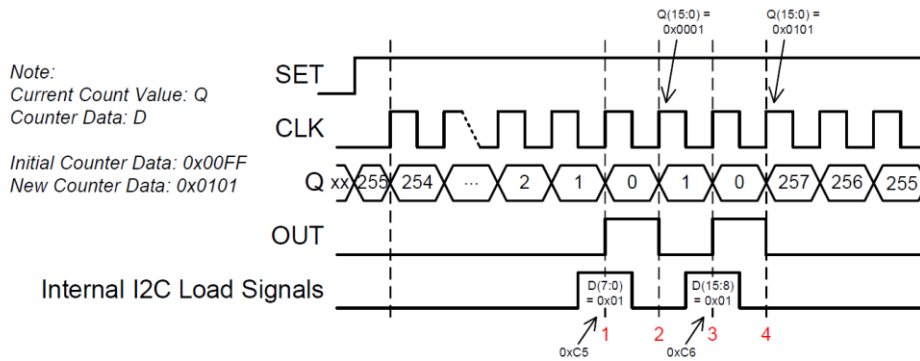

Figure 10. I²C Write of 16-Bit Counter Data Example
The timing diagram in Figure 10 sets up a case where an improper output will be seen on the counter. In this example, the initial Counter Data value (D) is set up as 0x00FF. As you can see, the Current Count Value (Q) decrements from 255 down to 0 with rising edges on CLK. At time "1" denoted by a red number 1, an I²C command (not shown) has just been sent to the GreenPAK device to reconfigure the Counter Data value to 0x0101.